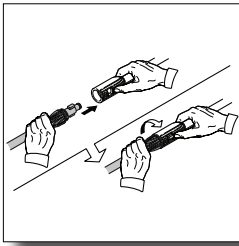

Fig. 5
- While the spray gun is in the locked position, insert the adjustable lance, extension lance with twister, fixed brush or the detergent bottle directly into the end of the spray gun by inserting, pushing together and turning clockwise simultaneously (Fig. 5). To remove push together and turn counter clockwise. Push the safety lock button to lock the trigger when changing the lances, brushes or the detergent bottle, to ensure that they do not accidentally eject with force during removal.